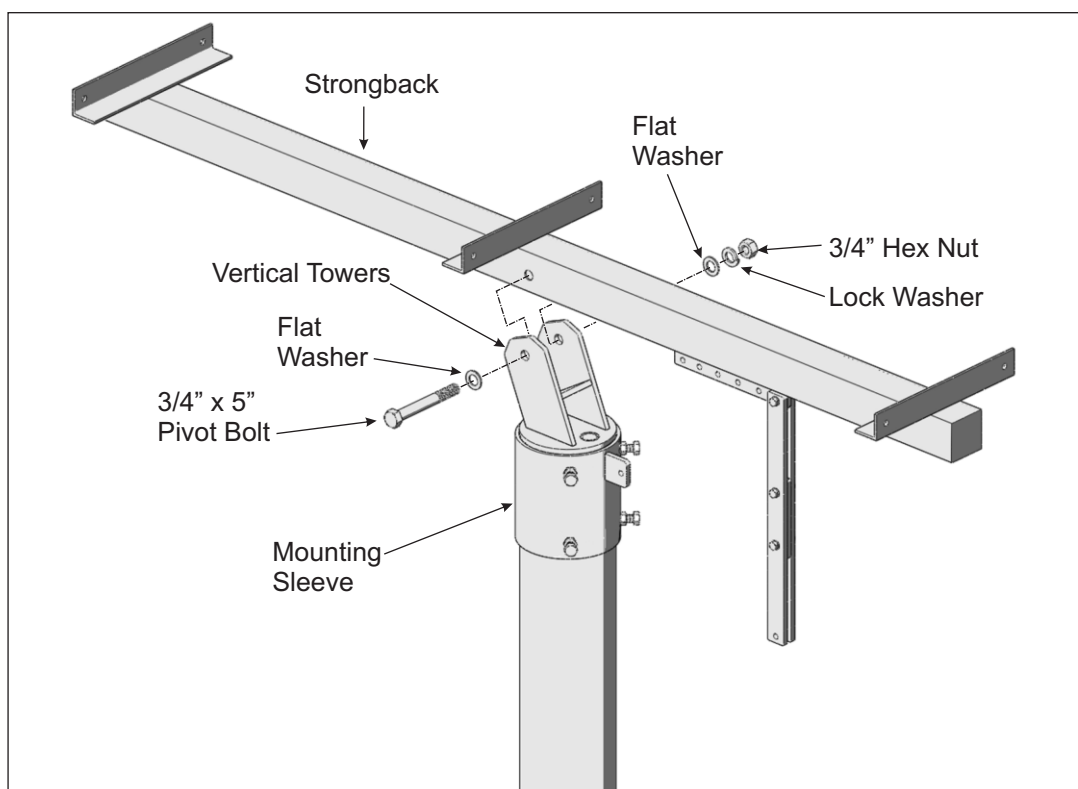

Figure 6-2: Installing the Strongback
- B. Remove the Pivot Bolt from the Mounting Sleeve and also collect the 3/8" x 1-3/4" bolt, flat washers and lock washer needed to secure the Support Bar to its Pivot Tab on the Mounting Sleeve. (See Figure 6-2)